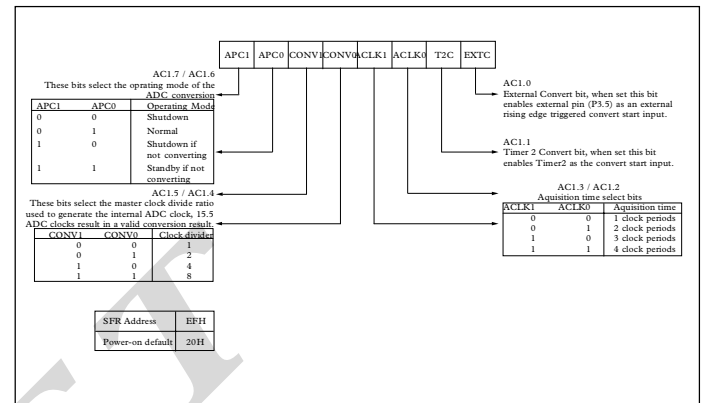

Figure 9. ADCCON1 SFR bit designations
- ADCCON1** - Controls acquisition and conversion times and powerdown modes as detailed in Figure 9.